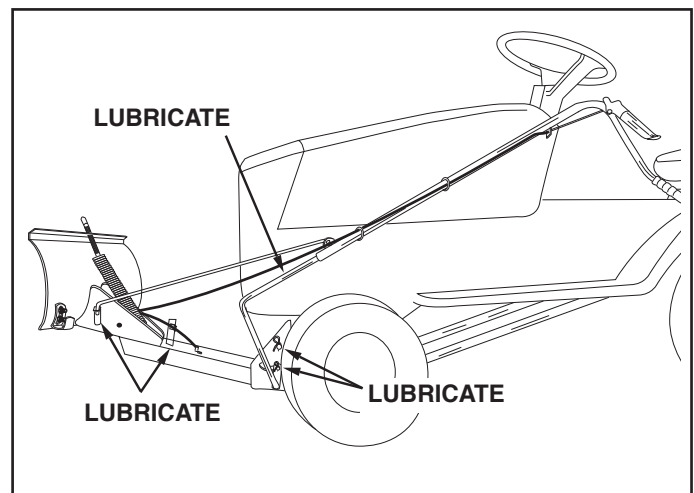

FIGURE 29
- Lubricate all pivot points and all points shown in figure 29, page 15 in the maintenance section.